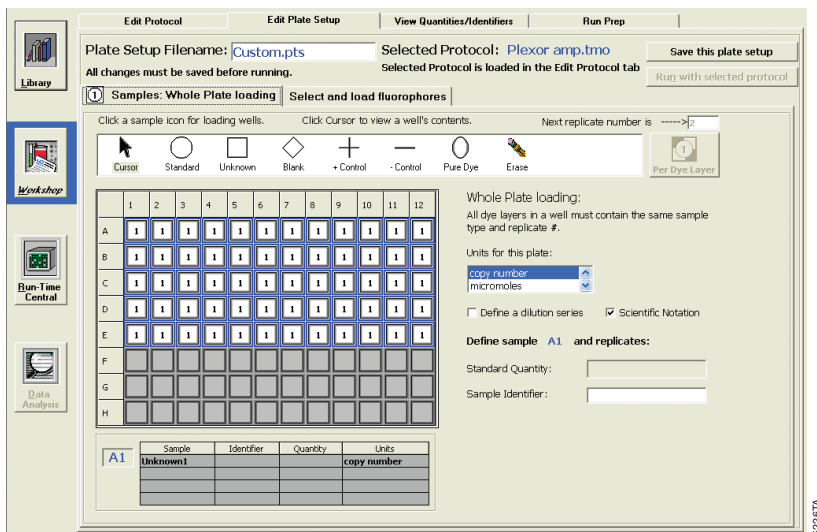

Figure 8. The “Whole Plate Loading” tab in the “Edit Plate Setup” window.
4. In the “Edit Plate Setup” window that appears, select the “Whole Plate loading” tab (instead of the “Per Dye Layer” mode) (Figure 8).
10. Enter a name in the “Plate Setup Filename” box (Figure 8). Save the plate setup by selecting “Save this plate setup” and then selecting “Save” in the “Saving a Plate Setup” window that appears.